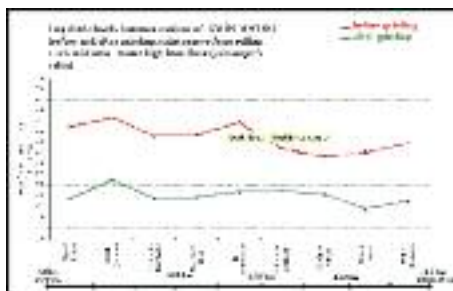

Figure 4 ; Before and after rail grinding results
After grinding; noise level measured in the outcomes that appear to be seriously reduced. Especially in wagon noise, recorded an average drop of around 7 to 13 dB(A) were observed as shown in figure 4 . The biggest treatment was in the range of 100-1000 Hz voice frequency spectrum. Another issue is vibration caused by bad running band.